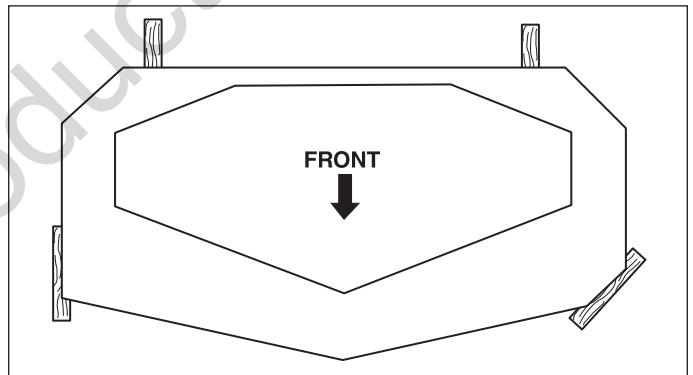

Figure 18. 2 x 4 Locations
6. Place 2 x 4 blocks under each corner of the mower deck with the 3-1/2" sides being vertical. Place a 1/4" (0,64 cm) thick spacer on top of the rear 2 x 4 blocks. See Figure 18.